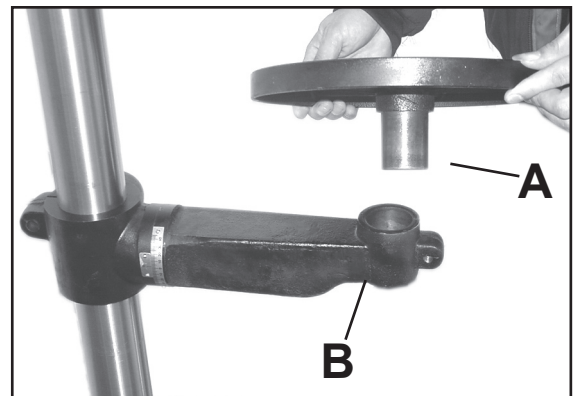

Figure 17
2. Insert the table post (A-Fig. 17) into the table support bracket (B-Fig.17) as shown.